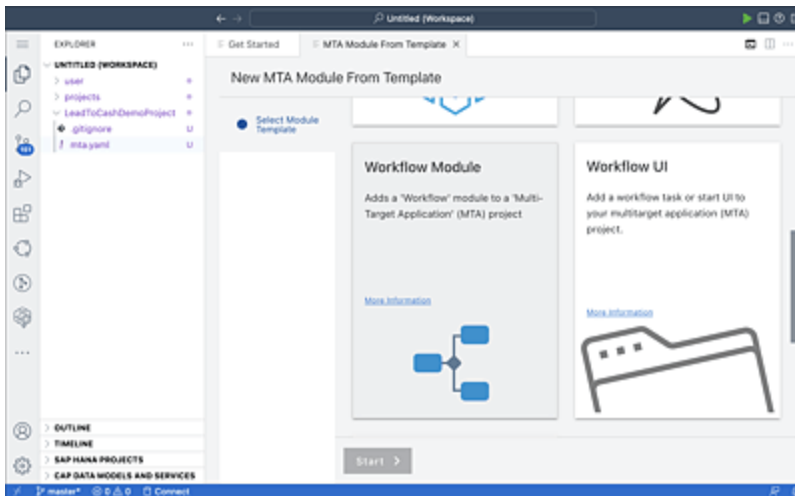

Figure 18.4 Create a Workflow Module (Part 2)
5. Choose **Workflow Module**, and click **Start**, as shown in Figure 18.4.